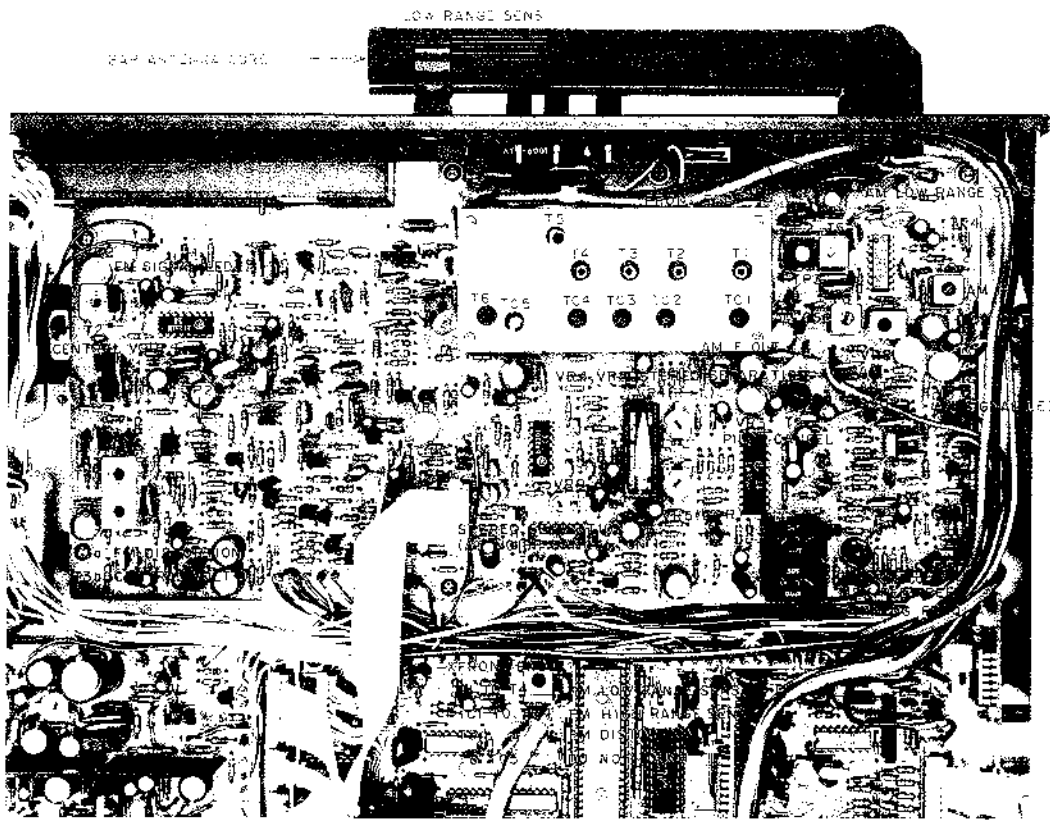

Fig. 10 Adjustment Points
- Unless specified otherwise, test points and adjustment parts are provided on the Tuner P.C Board (Fig. 10).
1. Unless specified otherwise, test points and adjustment parts provided on the Tuner P.C Board (Fig. 10).